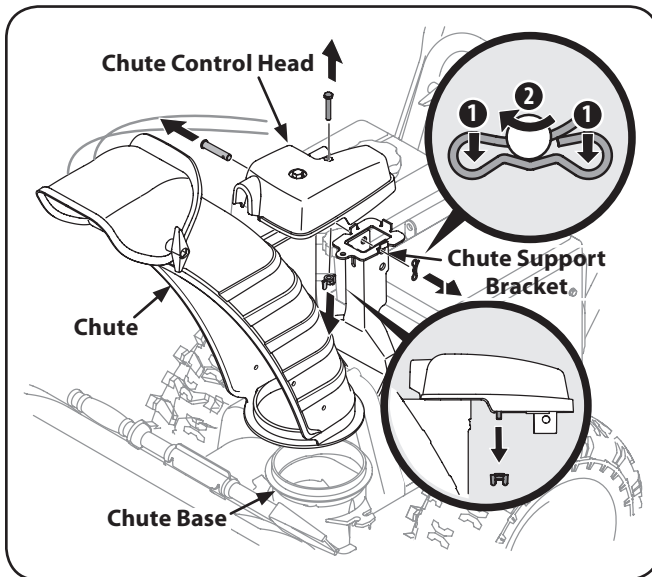

Figure 3-3
1. Remove cotter pin, wing nut and hex screw from chute control head. Remove clevis pin and bow-tie cotter pin from chute support bracket. See Figure 3-3.